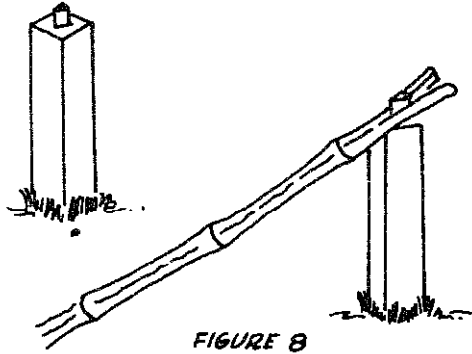

FIGURE 8
- o To split the **culms** again after they are split into four strips, use a simple steel wedge mounted on a post or block of wood (see Figure 8).